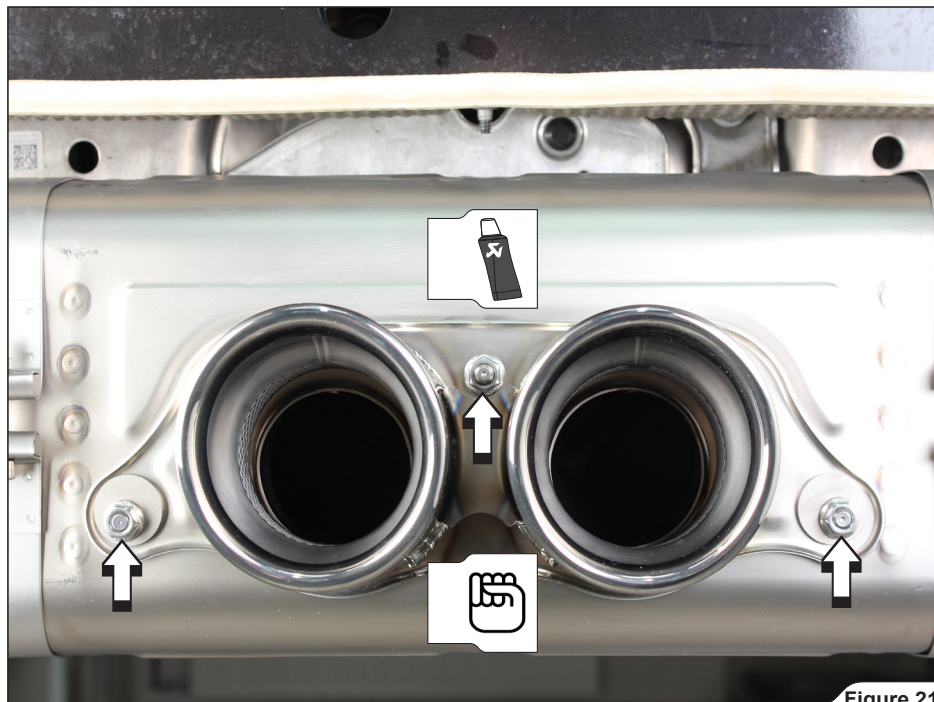

Figure 21
5. Attach Akrapovič tail-pipe onto the muffler's outlet. Correctly assemble and hand tighten nuts and centering washers from Akrapovič installation kit (**Figure 21**).